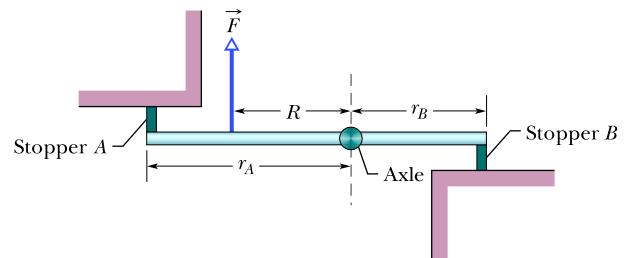

Figure 12.48 Problem 51.
- 51 H GO** Figure 12.48 is an overhead view of a rigid rod that turns about a vertical axle until the identical rubber stoppers *A* and *B* are forced against rigid walls at distances  $r_A = 7.0 \text{ cm}$  and